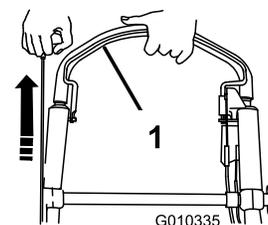

Figure 22
3. Hold the blade-control bar against the handle and pull the recoil-start handle (Figure 22).